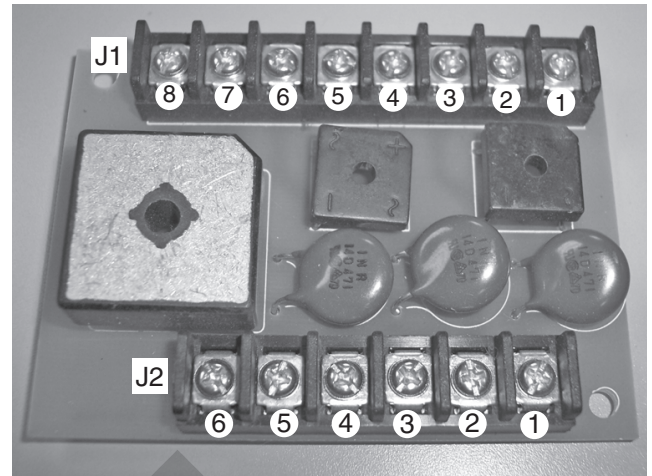

Figure 2. PCB Layout
2. For testing purposes, please follow the PCB numbering shown in Figure 2.